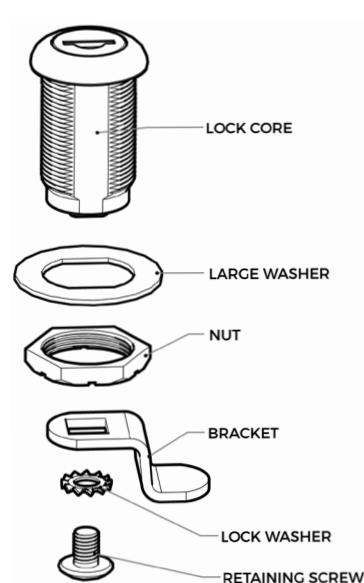

Figure 2: Lock core exploded view
- a. Locate the lock core on the inside of your accessory.** Use a Phillips Head screwdriver to loosen the retaining screw in the end of the lock core. Remove the retaining screw, lock washer, and the L-bracket (Figure 2). Reuse or recycle these parts according to local rules.